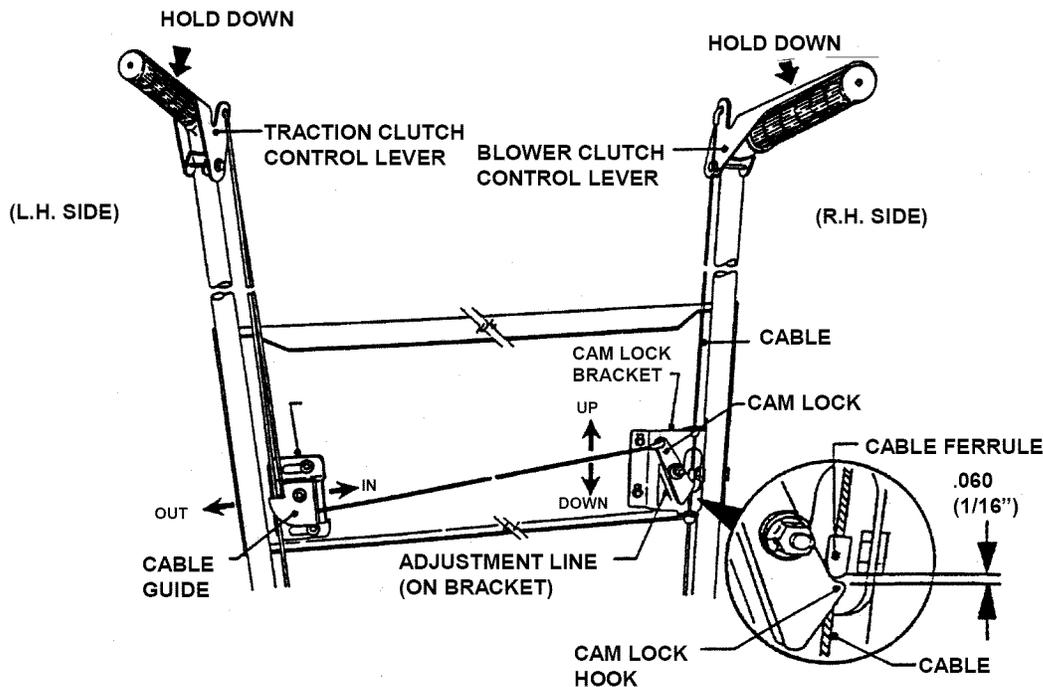

FIGURE 4.12
1. Hold the wheel drive control lever down against the handle. See Figure 4.12.
5. Check the position of the cable ferrule in relation to the cam lock. The ferrule must be located  $1/16"$  (.060) above the hook of the cam lock. To adjust, loosen the three nuts that secure the cam lock bracket. Slide bracket up or down until correct measurement is achieved. Retighten nuts securely. See Figure 4.12.